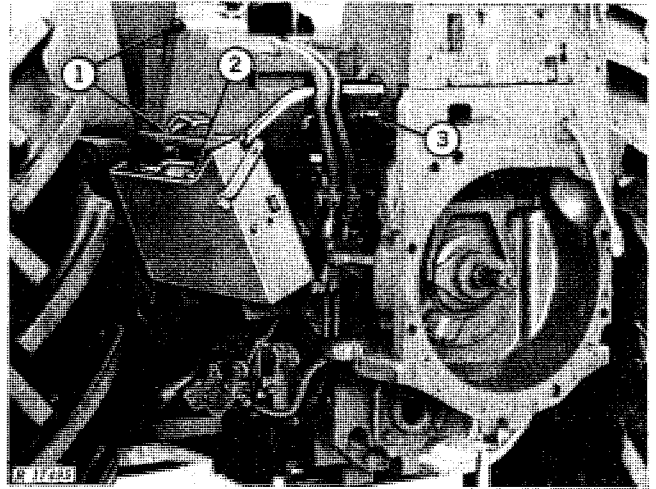

Fig. 7-Rear Portion of Tractor
1. Remove differential lock pedal pivot pin (Fig. 7). Do not remove differential lock return valve. Remove rockshaft selector lever knob.
2. Remove batteries (Figs. 7 and 8), and disconnect wiring from dimmer switch.